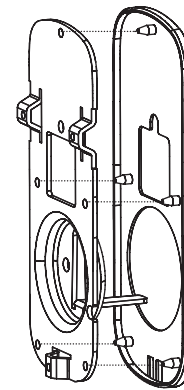

Figure 3A
- a. Ensure that gasket on inside mounting plate is properly fitted. Note the positioning of the gasket's five rubber nubs (Figure 3A).